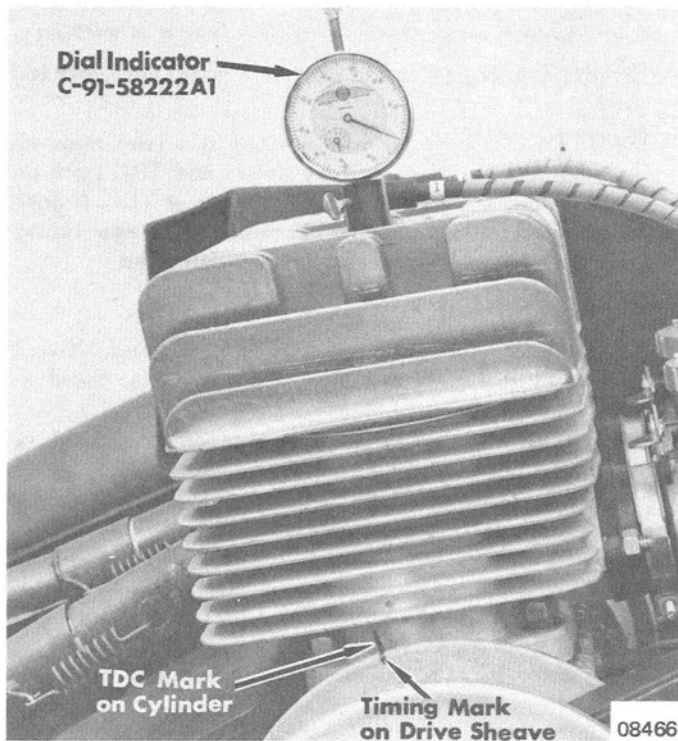

Figure 1. Dial Indicator Installed
3. Install Dial Indicator (C-91-58222A1) in No. 1 (PTO side) cylinder spark plug hole. (Figure 1)
5. With piston at TDC, place a mark on cylinder and another mark on edge of fixed face of drive sheave directly opposite mark on cylinder. (Figure 1)